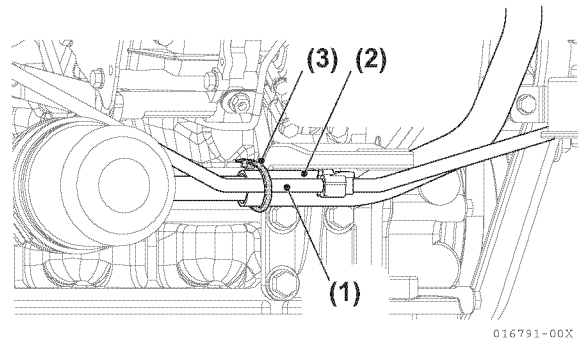

Figure 5-186
- Attach the feed pump wire harness to the oil cooler water pipe by nylon band (for 4JH4AE only) (Figure 5-186).